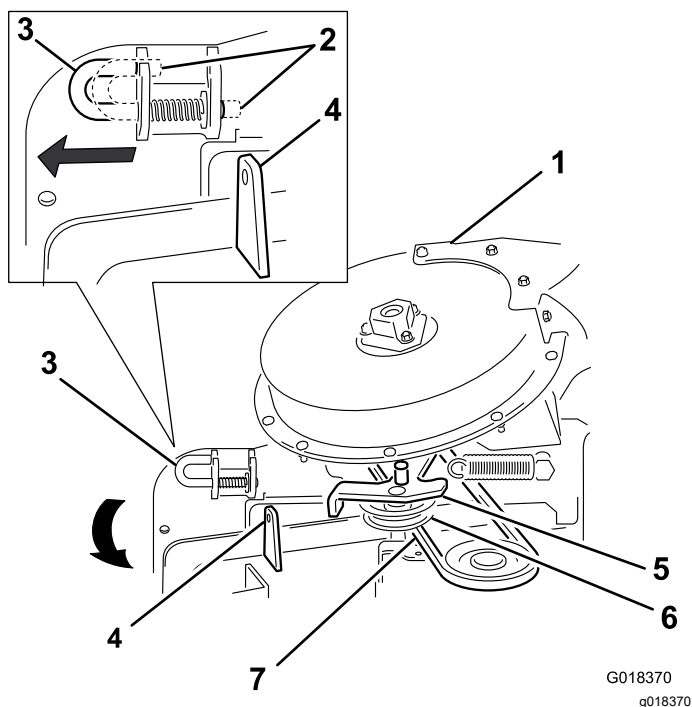

Figure 28
3. Move the latch pin from the locking position to the open position (Figure 28).
4. Close the blower assembly and align the latch pin with the hole in the chute bracket (Figure 28).